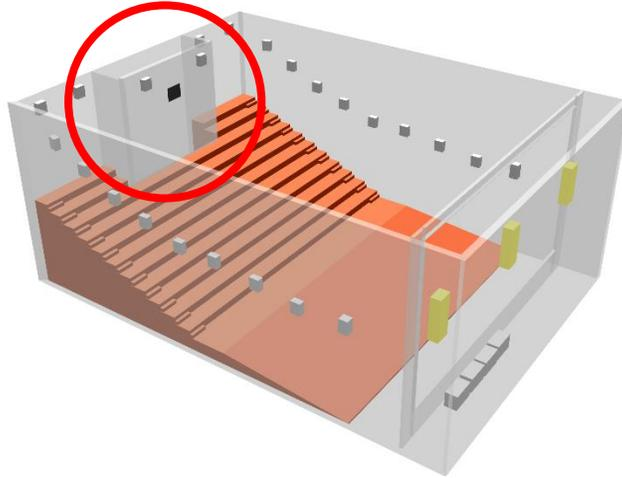

Figure 1 - There should be no "bump out" protruding into audience seating area.
- 1.7. The rear wall should not have indentations, cavities, or protrusions that create non-uniform seating regions in the back of the house compared to the rest of the room (Figure 1).